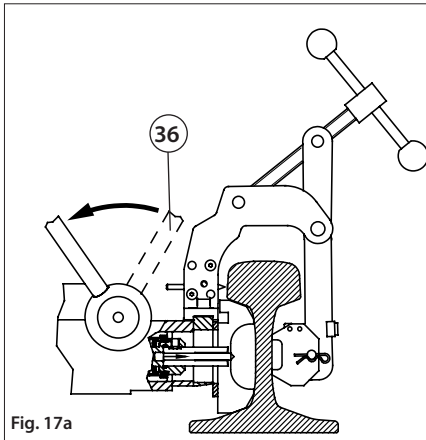
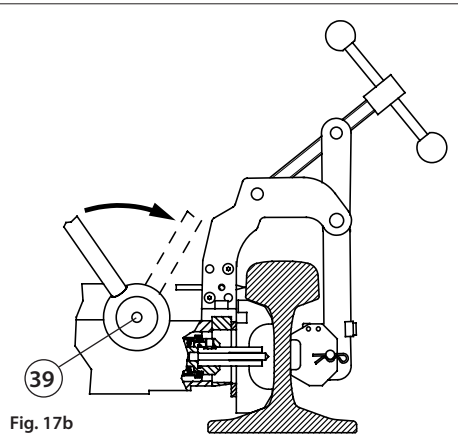

Fig. 17a
Fig. 17b
- 8.1.3) Using the lever (36) bring the guide bit almost in contact with the rail (Fig. 17a); keeping the release pawl (39) pressed, release the lever from its cup and return it to the initial position (Fig. 17b), which will enable the travel of the lever (36) to be used in the most advantageous way.